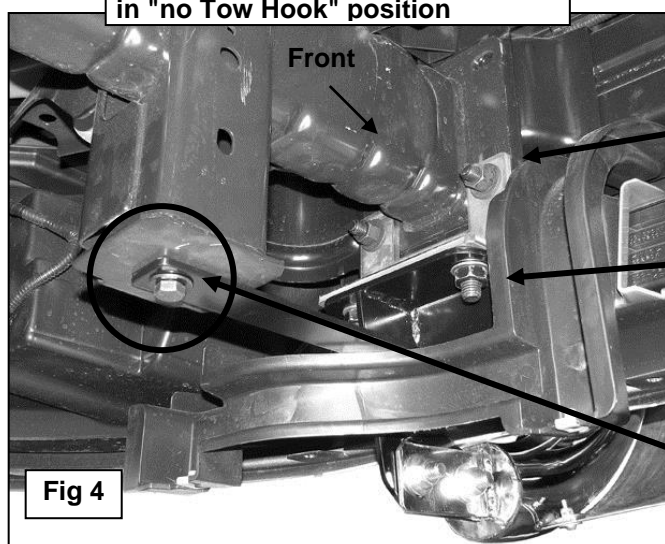

Fig 4
- b. Select (1) Upper Frame Bracket, (will fit left or right-without tow hooks only), and the driver side Mounting Bracket, **(Figure 3)**. Bolt the two Brackets together with (2) 12mm Flat Washers, (2) 12mm Lock Washers and (2) 12mm Hex Nuts, **(Figure 4)**. Do not tighten at this time.
- c. Insert the assembled Mounting Bracket up from behind the bumper and align the holes in the Mounting Bracket with the bumper bolts. Attach the Bracket to the bumper bolts using the factory hex nuts and snug but do not tighten the hardware, **(Figure 4)**.
- e. Attach the flat end of the driver side Bracket to the frame with (1) 12-1.5mm x 30mm **Special Fine Thread** Hex Bolt, (1) 12mm Flat Washer and (1) 12mm Lock Washer, **(Figure 4)**. **IMPORTANT:** The hole in the bottom of the frame is **fine thread**. Only use the 12-1.5mm x 30mm Hex Bolt provided in the hardware kit. Snug but do not tighten all hardware at this time.